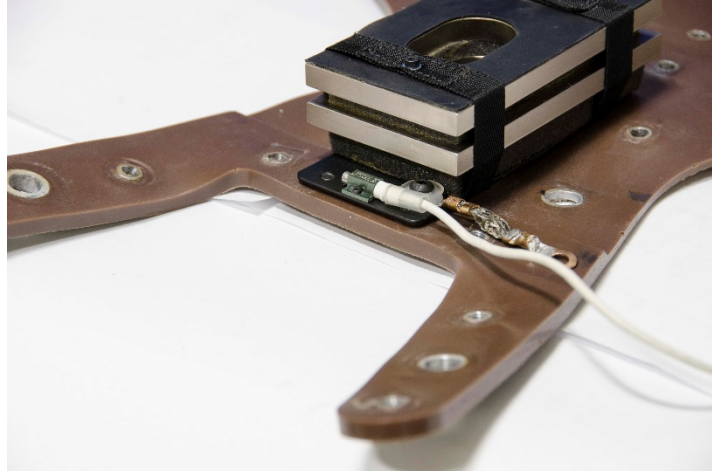

Figure 6-48. Install wire clamp with ground strap to sternum accelerometer
- 6.2.2.41 Route the accelerometer wire through the 1/8" Nylon Wire Clamp (9002655). Install the ground strap between the wire clamp and the sternum mass and secure with an M4 x 0.7 x 8 BHCS (Figure 6-48).